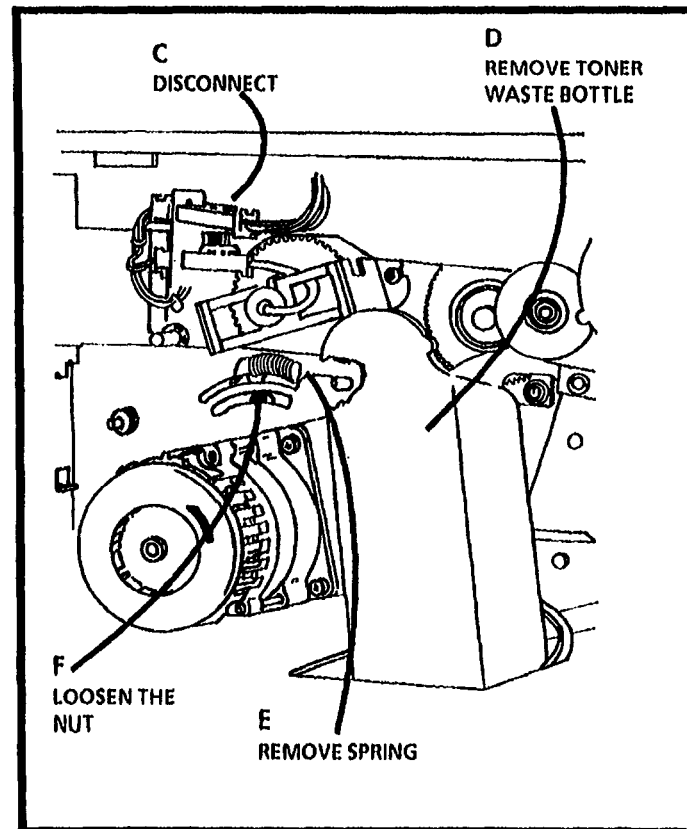

Figure 7. Prepare to Remove the Xerographic Module
11. (Figure 7): Prepare to Remove the Xerographic Module.
**!** STEP 12 B: To avoid damage to the flanges on the sides of the idler pulley if the latching cover is lowered, raise the idler fully up as shown in Figure 7.
11. (Figure 7): Prepare to remove the Xerographic Module.